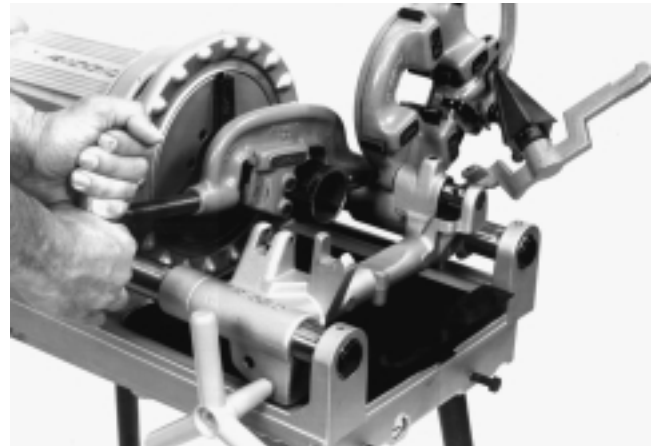

Figure 7 – Cutting Pipe With 300 Compact Threading Machine
4. Assume the correct operating posture (*Figure 7*).
6. Grasp the pipe cutter’s feedscrew handle with both hands (*Figure 7*).